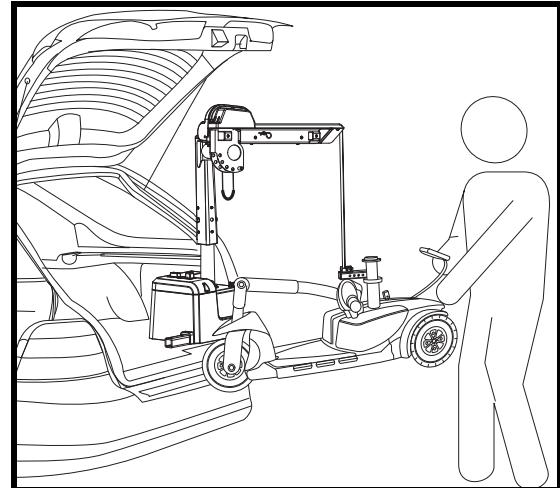

Figure 8. Lifting the Mobility Product
9. Once the mobility product is raised high enough to fit into the vehicle, stop the lift. See figure 8.